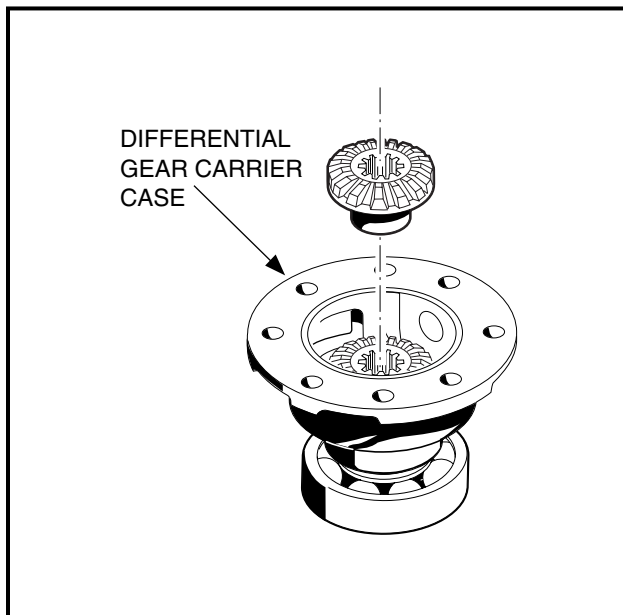

Figure 5-33 Differential Gear
2. Install differential gear (91) into carrier case (84) (**Figure 5-14, Page 5-9**). See also **Figure 5-33, Page 5-19**.